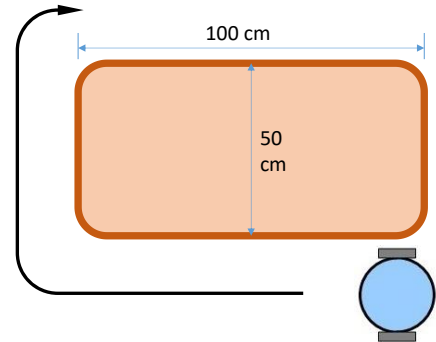
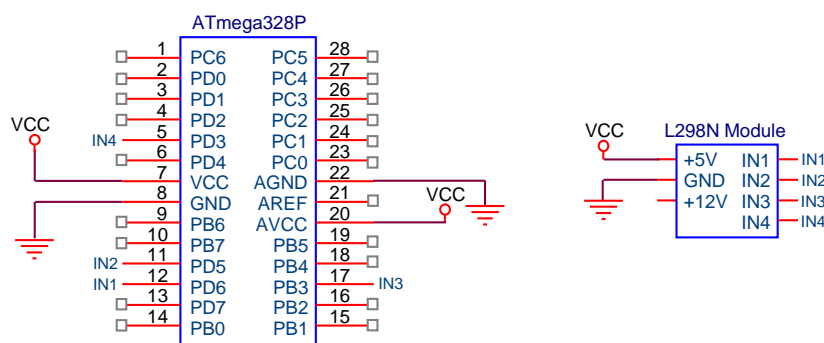

Figure 1: Task of the wheel robot
Figure 2: Circuit diagram of wheel robot
In this lab, you are required to design and build a wheel robot. You are also asked to navigate the wheel robot to circle around a field (Fig. 1). To complete this task, you will need to learn how to control two direct current (DC) motors, moving the wheel robot forward and making right and left turns. After completing this lab you should be able to:
Use Timer0 and Timer2 to generate the PWM signals. Connect OC0A and OC0B (PD6 and PD5) to IN1 and IN2 as shown in Fig. 2. These two output signals control a DC motor. Connect OC2A and OC2B (PB3 and PD3) to IN3 and IN4 as shown in Fig. 2. These two output signals control the other DC motor. Write a C program that navigates the wheel robot to circle around the field (Fig. 1).